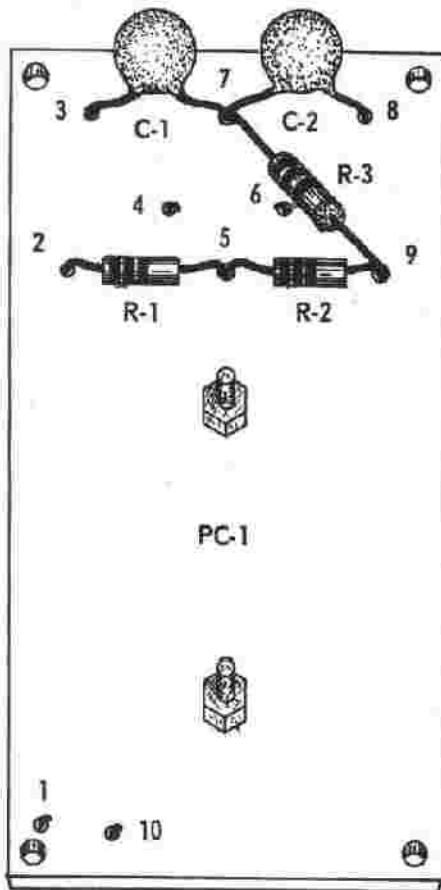

Figure 1. Bottom View of Printed Circuit Board.
1. Position the printed circuit board PC-1 as shown in Fig. 1.